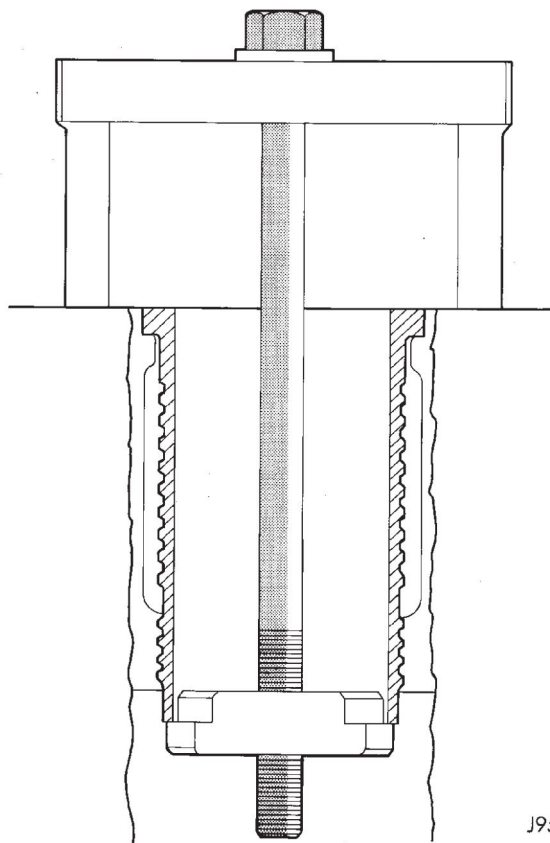

Fig. 82 Cylinder Liner—Removal
- (1) Remove cylinder heads (refer to cylinder head removal in this section).
- (2) Remove Oil pan (refer to oil pan removal in this section).
- (3) Remove pistons (refer to piston removal in this section).
- (4) Use tool VM-1001 to remove liners (Fig. 82).
- (5) Remove shims from cylinder liner or cylinder block recess. Keep shims with each cylinder liner.